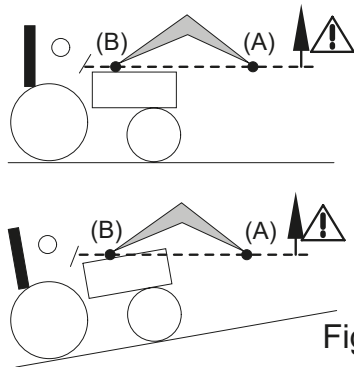

Fig. 2
- During lifting operations and when moving, ensure that you keep the load in sight, from the moment the implement pivot point (A) passes above the horizontal line of the loader pivot point (B) [see Fig. 2]. If necessary, correct the implement's position so that the load is never directed towards the driver [see Fig. 3].
! DANGER: If the load is not properly secured, the operator is exposed to the risk of the load falling when the implement pivot point (A) passes above the horizontal line of the loader pivot point (B) [see Fig. 2].
! DANGER: Do not crowd the loader when the implement pivot point (A) exceeds the horizontal line of the loader pivot point (B) [see Fig. 2].